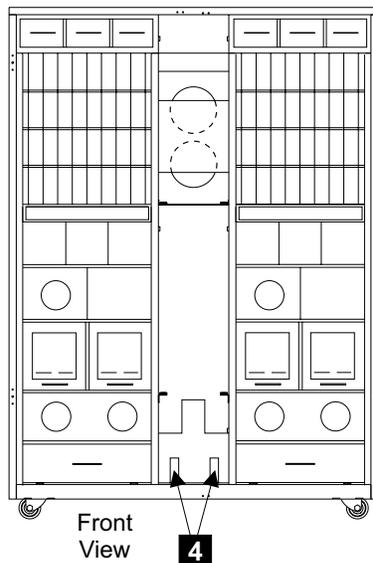

Figure 219. Line Cord Bracket Connectors (S007631m)
- ___ 7. On wired machines only, disconnect each wired mainline power cable **4** [Figure 219] from the line cord bracket.